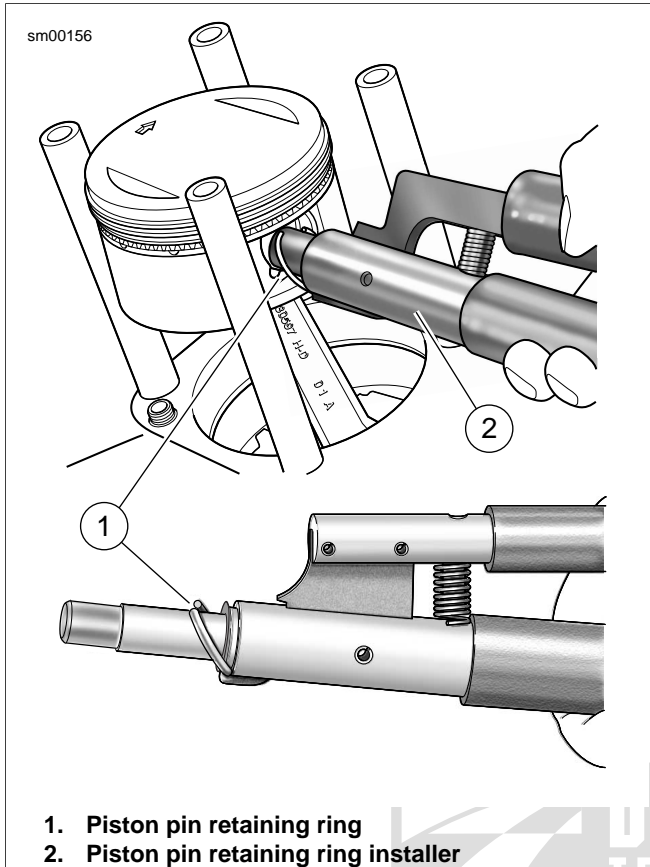

Figure 3-71. Removing Piston Pin Circlip
8. See Figure 3-71. Remove the piston pin circlip as follows: